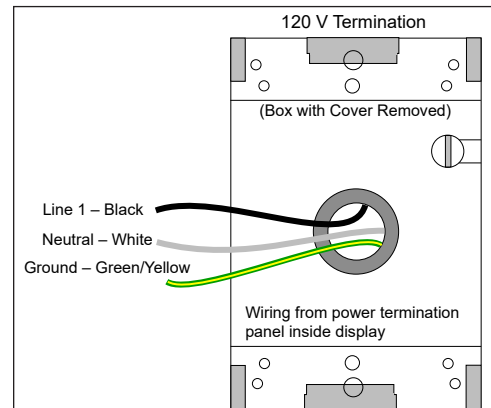
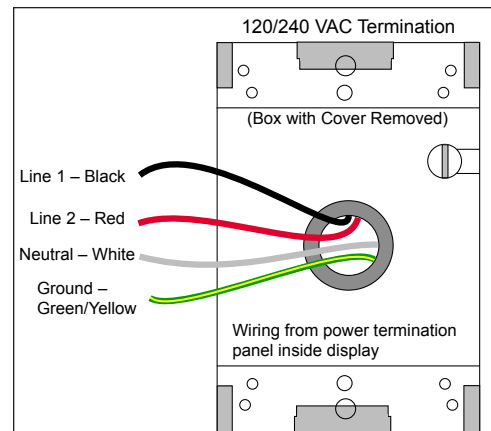

Figure 3: 120 V J-box Termination
Figure 4: 120/240 V J-box Termination
2. Inside the J-box, connect the power wires to the wires coming from the display interior using wire nuts. Refer to **Figure 3** for 120 VAC and **Figure 4** for 120/240 VAC.